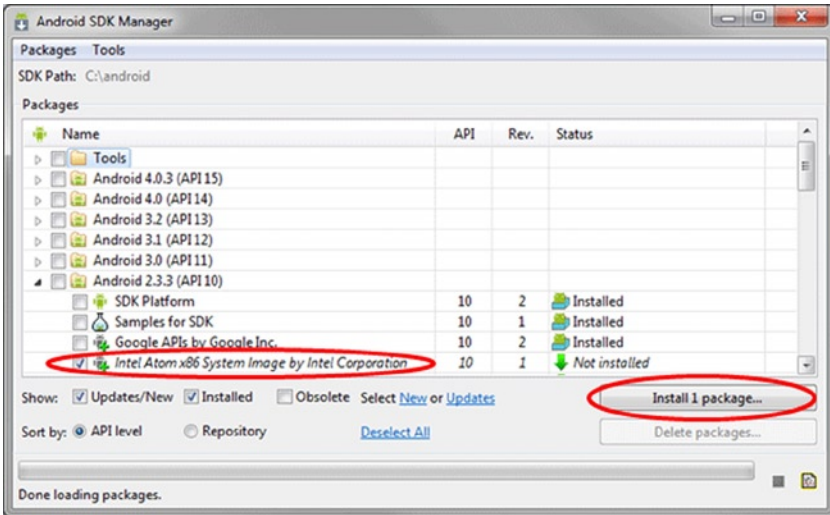

Figure 8-3. Android SDK Manager Selection for x86 System Image
3. Once selected, click the Install Package button, as shown in Figure 8-3.